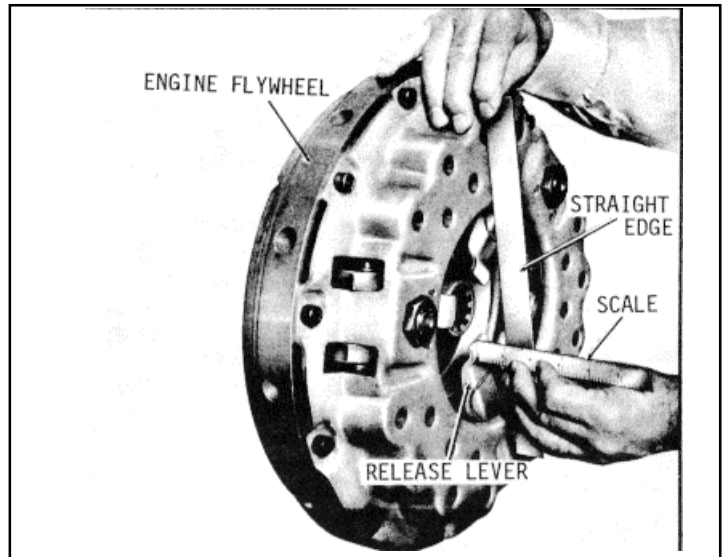

Fig. 3 Checking Dimension "A"
- (e) Check "A" Dimension: The distance from the top of the clutch flywheel ring (cover) to ends of release levers. A straight edge and scale provide a means of checking the "A" Dimension (see Fig. 3) which should measure 15/16". If the "A" Dimension does not check out to within 1/32", the cover is not seated properly.
- (c) Deep Reduction Shift Cylinder (check point H): If any of the seals in the reduction shift cylinder are defective, the reduction gear shift will be affected. The degree of lost air, of course, will govern the degree of failure to shift. Refer to Fig. 3 for location of seal.
- (1) Leak at Seal A: Failure to engage reduction gear; pressurizing of transmission; reduction gear can be disengaged.
- (2) Leak at Seal B: Failure to engage reduction gear; leak from deep reduction valve exhaust port when valve is "in".